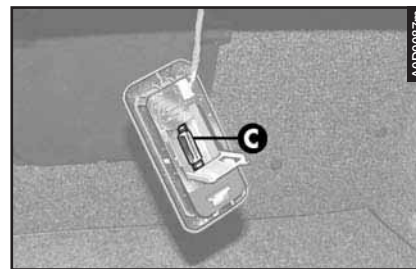

fig. 82
– Remove the snap-fitted bulb (C- fig. 82).